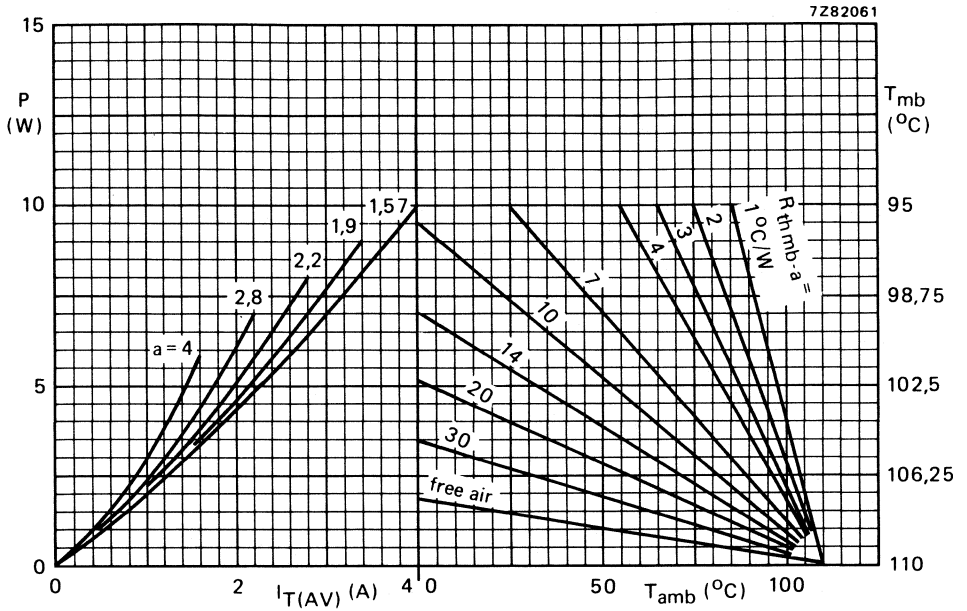

Fig. 5 The right-hand part shows the interrelationship between the power (derived from the left-hand part) and the maximum permissible temperatures.
- b. The method of using Fig.5 is as follows: